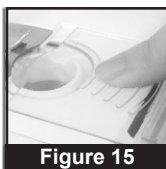

Figure 15
1. Remove the Bobbin Cover. (Figure 15)